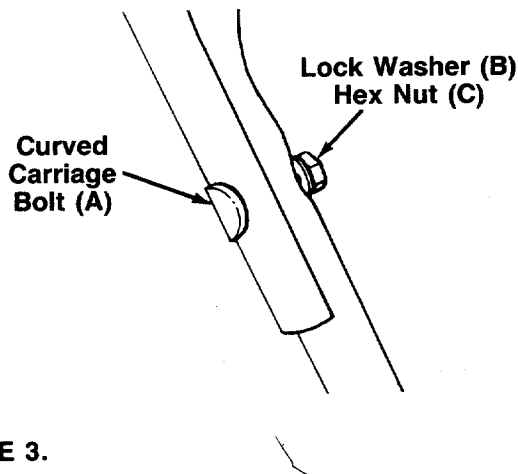

FIGURE 3.
- Place upper handle in position over lower handle. Control housing should be on the left side of the handle. Secure upper handle with two curved carriage bolts (A), lock washers (B) and hex nuts (C). See figure 3.